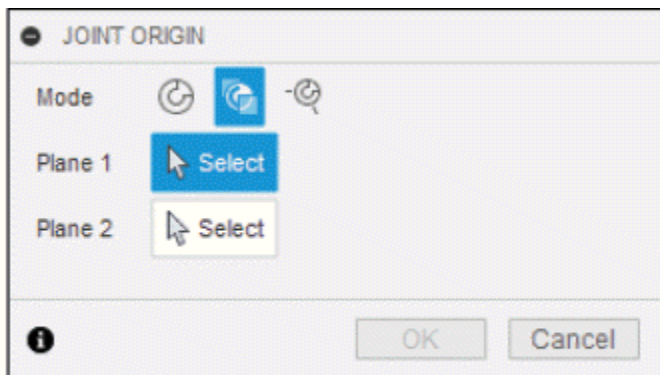

Figure-28. Updated JOINT ORIGIN dialog box
- In our case, we are selecting the **Between Two Faces** option from **Mode** section. The updated **JOINT ORIGIN** dialog box will be displayed as shown in Figure-28.